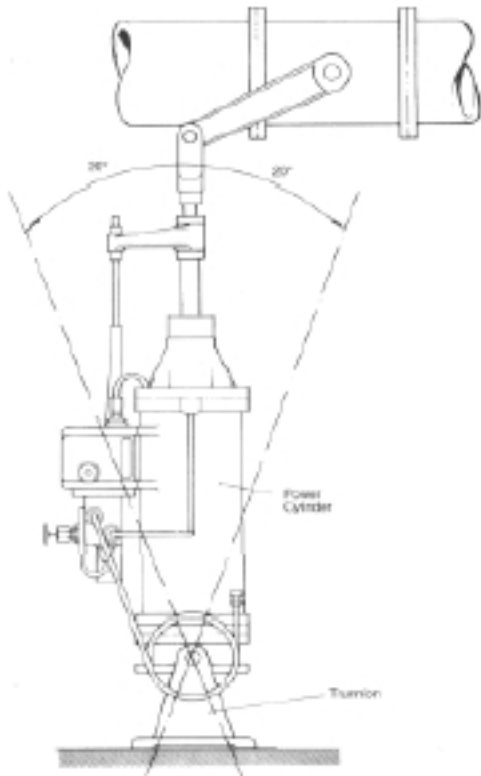
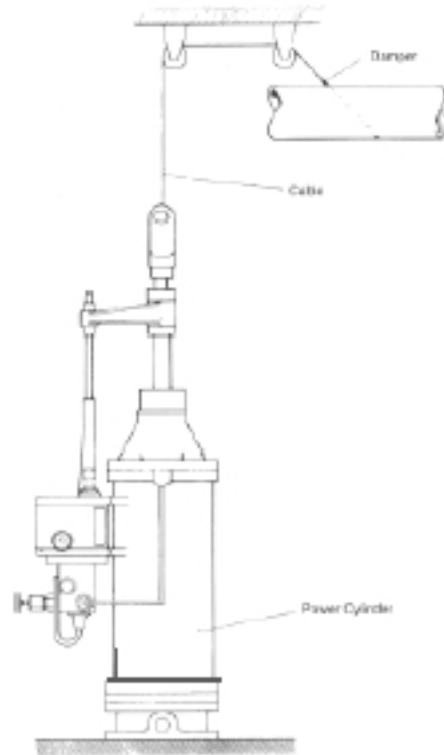

FIG. 2 TRUNNION MOUNTED POWER CYLINDER
FIG. 3 END MOUNTED POWER CYLINDER
The power cylinder is supplied for trunnion mounting (see Fig. 2) or end mounting (see Fig. 3).
2.3.1 Trunnion Mounting (Fig. 2)
2.3.2 End Mounting (Fig. 3)
This method of mounting is shown in Fig. 3, the cylinder being supported on an end mounting plate which is bolted to a solid foundation.